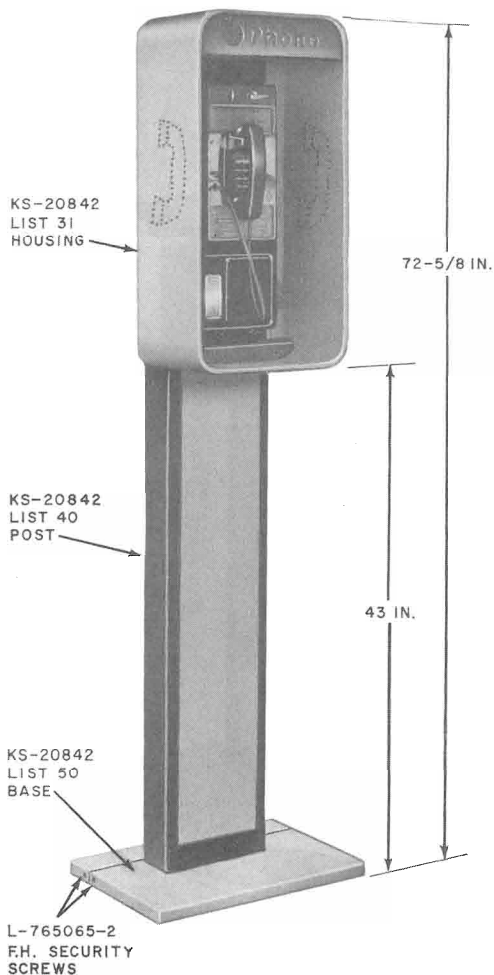

Fig. 1—KS-20842, List 5 Telephone Mounting
2.01 The KS-20842 mounting (Fig. 1 and 2) consists of a post, a shelf or housing, and a base. Refer to Table A for the various combinations of the shelf, housing, and base that may be used with the post to make up the different mounting assemblies.
2.04 The List 40 post (Fig. 1) is common to each of the mounting assemblies. The post is approximately 5-1/2 feet high, 10 inches wide, and 4 inches deep. A black textured vinyl finish covers the 3/16-inch thick steel unit.
2.10 *List 50 regular base* (Fig. 1) is 20 inches long, 14 inches wide, 7/8-inch thick, and weighs approximately 70 pounds. Ten holes are provided for securing the base to a mounting surface. Two aluminum covers protect the mounting hardware and provide a finished appearance. The regular base is used in all pedestal installations except next-to-wall or back-to-back installations.
2.13 An aluminum housing, 14-5/8 inches wide, 9-1/2 inches deep, 29-1/2 inches high, and 1/4-inch thick, is provided for indoor and outdoor use. The housing mounts on top of post (Fig. 1) and may be installed or replaced without removing the telephone or interrupting the telephone service.
- (1) Using a KS-19192, List 1 wrench, remove the four security screws and two covers from the List 50 base (Fig. 1).
- (2) Place the base in exact position that the telephone mounting is to be installed. If underground power and telephone wires are to be used, ensure that the conduit studs in the